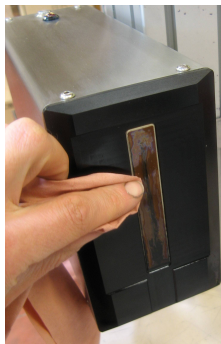

Fig. 17: !! Carefully and gently !! wipe the excess ink
- Carefully wipe excess ink off (Fig. 17). **Do not touch the nozzle plate** : it is coated with a special “non wetting coating” which is self cleaning.
- carefully clean the print-head (Fig. 17).